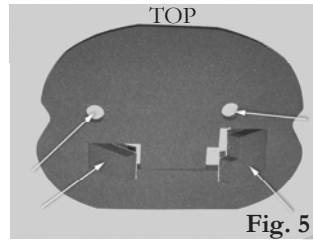

Fig. 5
- 5a Follow steps 1 thru 4. Starting at the bottom of the flange, place the bottom of the gasket down above the lip of the flange. While keeping it centered, begin pressing the sides of the gasket down, making sure the edges stay inside the flange. Then press the top of the gasket down. Carefully tuck the gasket around the wires so that the wires fit into the 2 holes in the gasket. Please make sure there are no gaps around the wires as this will let moisture and dirt inside the back of the light. (See figures 5 & 6 below)